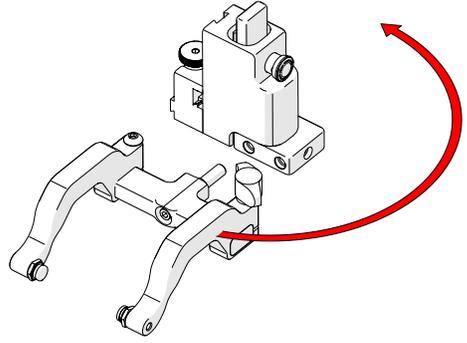

Fig. 53 - Orient to opposite side
2. Position the yoke and arms to the opposite side of the probe holder (Fig. 53).